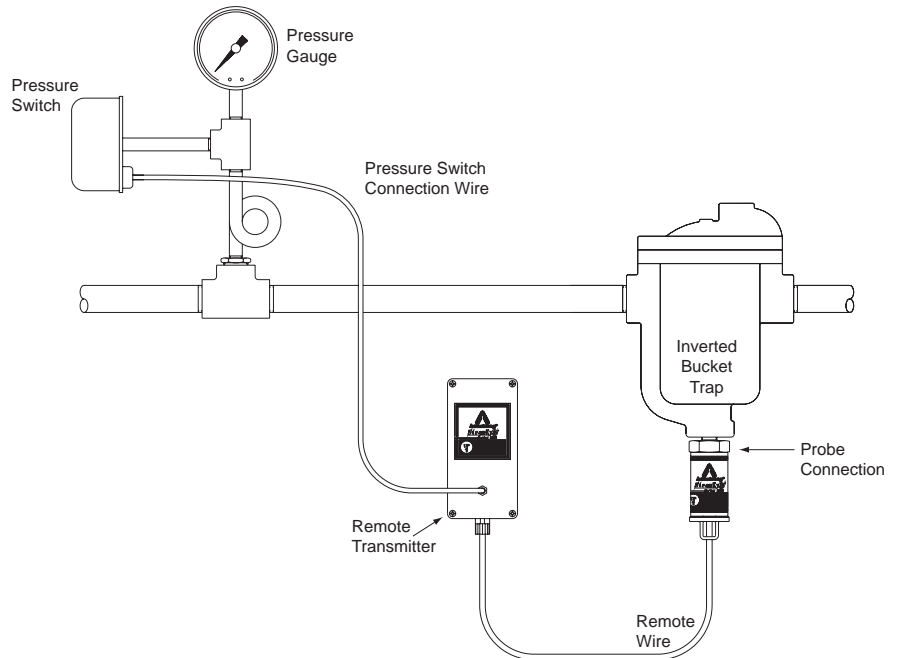

Figure 4. Model RFM 3300 installation with inverted bucket and pressure switch.steamtrap
• See Figure 4 for proper pressure switch wiring.